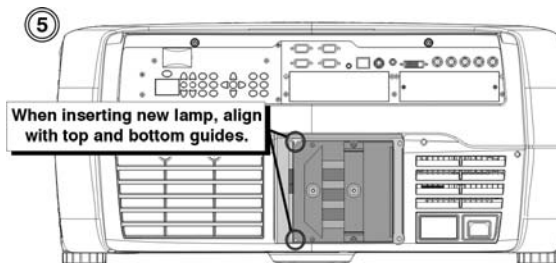

Figure 49. Aligning Lamp with Guides
5. Align the new lamp with the top and bottom guides on the left side of the lamp compartment. (Figure 49.) Slide the lamp all the way in – a slightly harder push may be required right at the end to make sure it is fully seated into the terminal block.